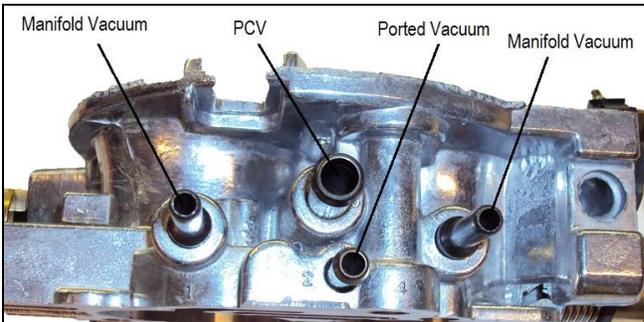
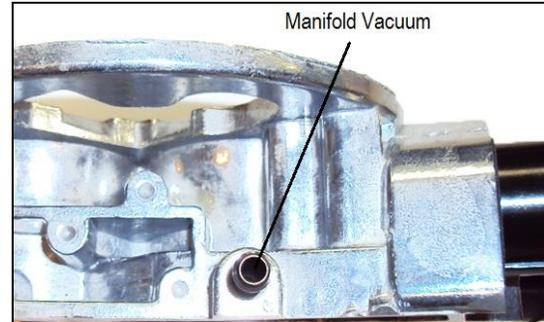

Figure 3
Figure 4
2. Connect all of the vacuum lines that were labeled during the disassembly of the stock fuel system to the throttle body. **Figure 3** shows which ports are for manifold vacuum, ported vacuum, and PCV. The single fitting on the back of the throttle body is for manifold vacuum. There is a port on the other side of the throttle body as well. This is manifold vacuum. **HOWEVER, DO NOT CONNECT THE MAP SENSOR TO THIS PORT (Figure 4).**